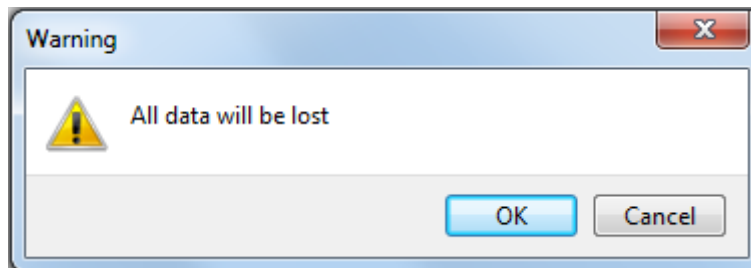

Fig. 26 Data loss warning.
- Select: **OK** to start uploading of the update (Fig. 26).